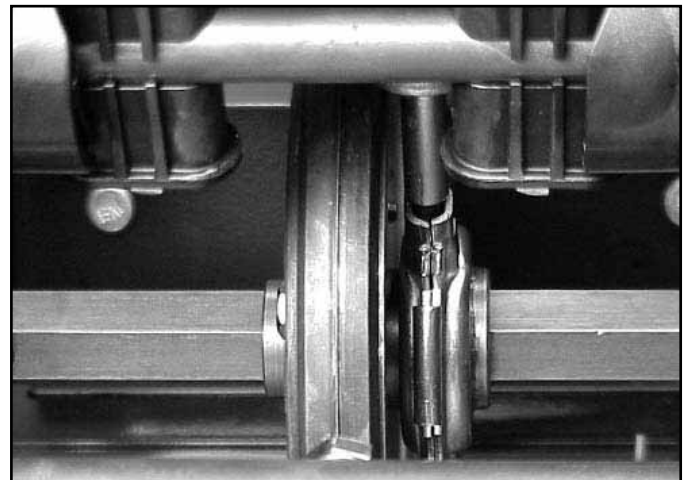

Fig 152 MVC-031XYX.jpg
5. Install friction wheel assembly. You can lay the shift mechanism onto the housing and insert shift shaft into friction wheel assembly in the direction shown. It is important that the friction wheel and shift mechanism are to the right of the snowthrower (Fig. 152).